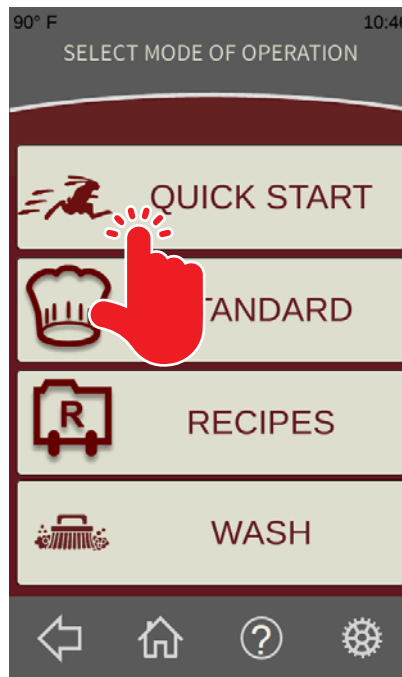

Fig. 5
1. From the **Home Screen**, touch the Quick Start button (Fig. 5). The **Enter Temperature Screen** should be displayed.